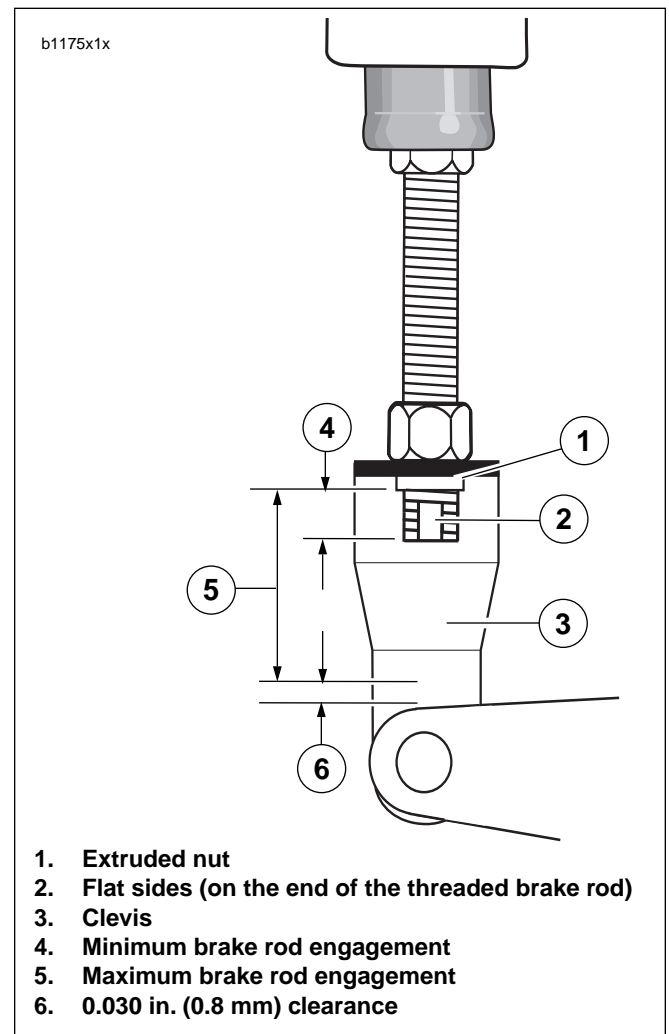

Figure 1-14. Brake Rod Engagement
- See Figure 1-14. On the very end of the threaded brake rod, are two flat sides (2). To ensure thread engagement with the clevis (3), the flat sides must extend below the extruded nut (1) in the clevis by at least one full thread. This is the minimum brake rod engagement (4).
- Also, there should be a minimum of 0.030 in. (0.8 mm) clearance (6) between brake rod end and brake pedal (5). This is the maximum brake rod engagement. (5)